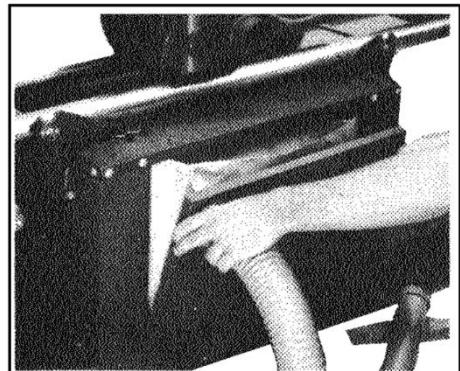

Fig. 13
10. Install rear panel. Unfold sawdust vacuum bag and lay it on inside of rear panel so that bag matches panel and inlet tube of bag lines up with large flanged hole in panel. Tuck tube about one inch through hole and spread it so that one end of the short hose can be inserted. Make sure bag is still square with panel and secure it by pushing hose adapter into panel hole, thereby sealing hose to bag tube. Mount rear panel with hose at upper left corner, (Fig. 13) using the two #6 plastic head thumb screws and Tinnerman nuts. Rest bottom of bag on rear rail.